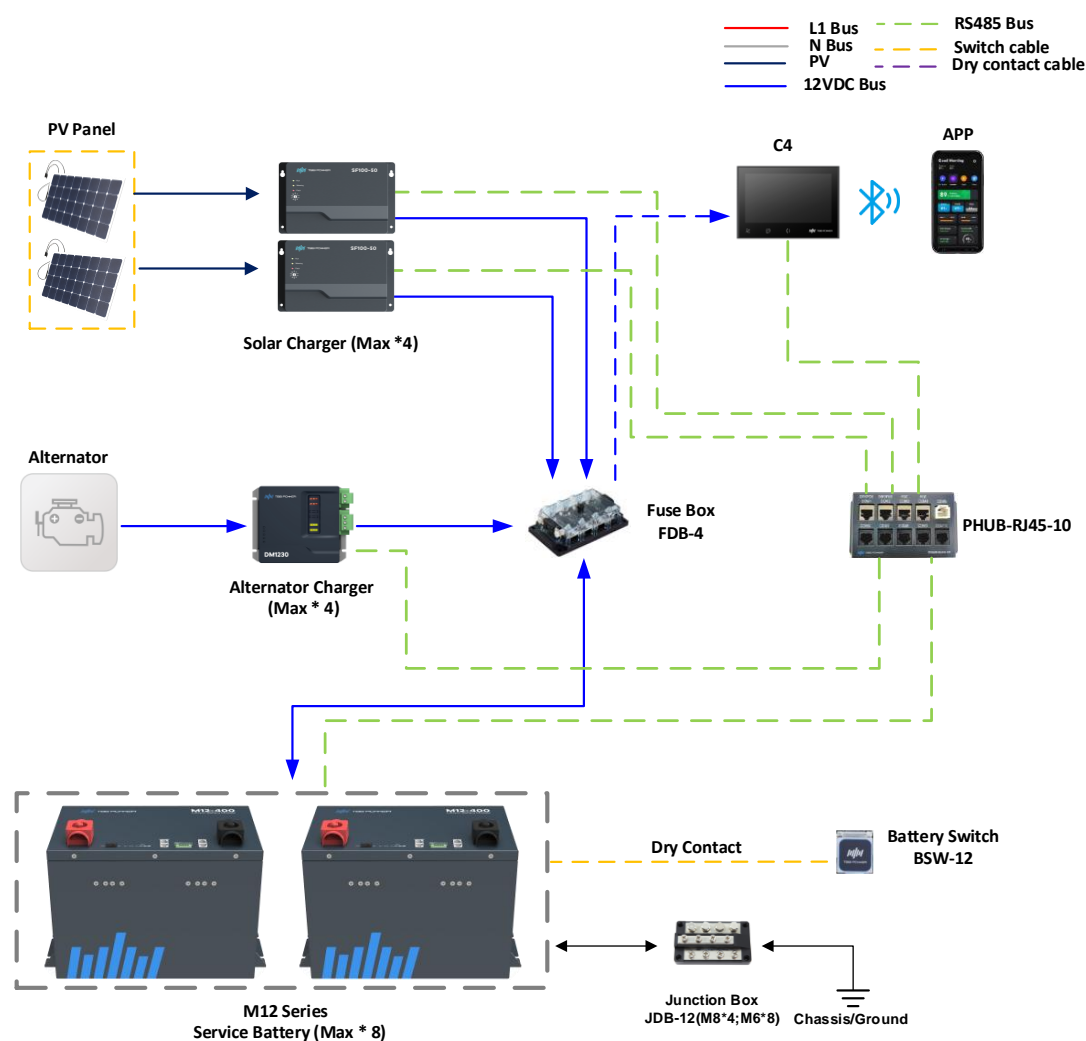

fig 2-3 Battery Pack 01 Mode
3. The wiring diagram for Battery Pack 01 mode is shown in Figure 2.3, and the system configuration list is shown in Table 2.3.